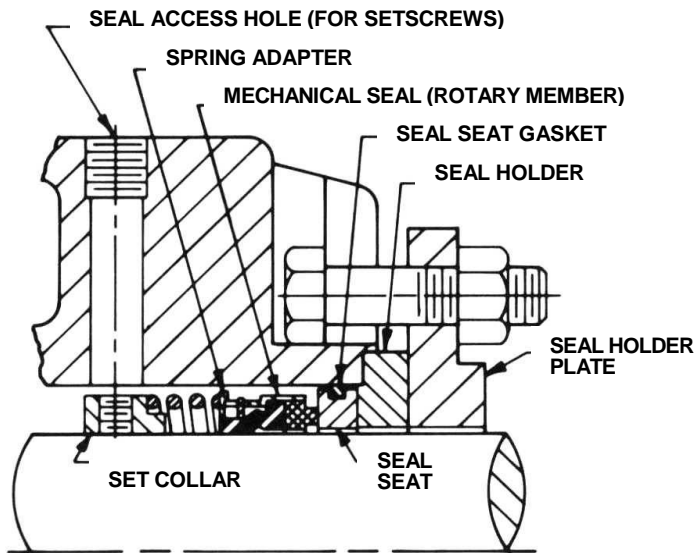

FIGURE 5 – STANDARD MECHANICAL SEAL
4. Standard Mechanical Seal (synthetic rubber bellows type) uses a set collar behind the seal spring. Two setscrews must be loosened before shaft can be removed. Access to collar setscrews is through seal access hole on right-hand side of mounting bracket (viewed from shaft end. **Refer to Figure 5.**)